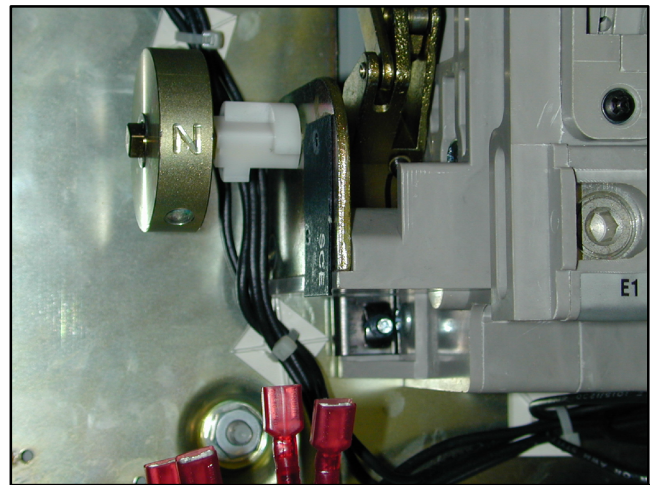

Figure 7-10 Microswitch Fast-On Connectors
6. Disconnect the fast-on connectors. See Figure 7-10.